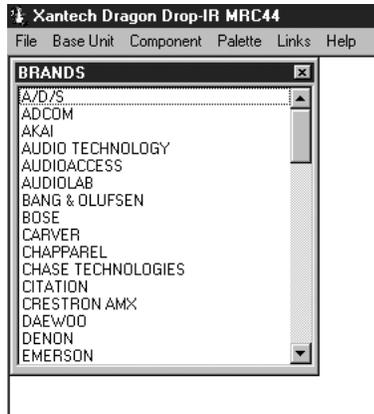

Figure 14
2. Locate and Select (single click) the desired BRAND as shown in **Figure 14** (i.e. Sony, Panasonic etc). A list of Components will appear. (See later sections for adding brands.)